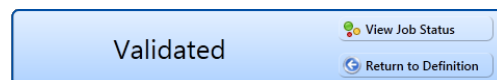

Figure 10-23. Validated Message
- 16 To validate the Bridge definition, click the **Prevalidate** button. When the validation process completes and the following message displays, click **View Job Status** to open the *Job Status* window or **Return to Definition** to open the *Definitions* window (Figure 10-23).